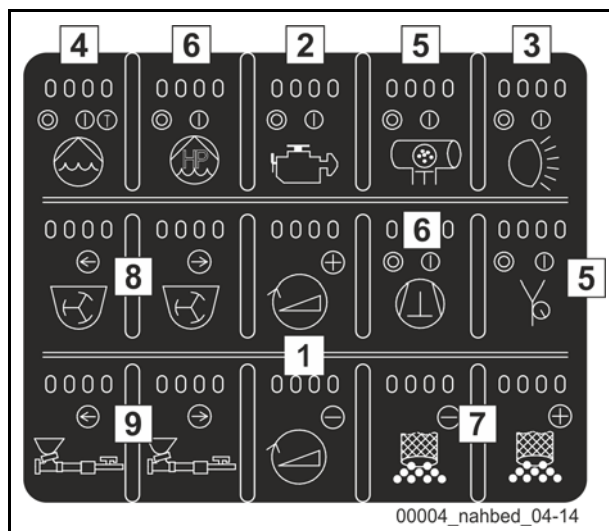

Fig. 434 Local control keypad
- If you switch on the HP pump using the local control (6)  (**Fig. 434**), the pump will draw its water from your machine's water case. If the trigger is not actuated, the HP pump cannot pump water to the spray lance.